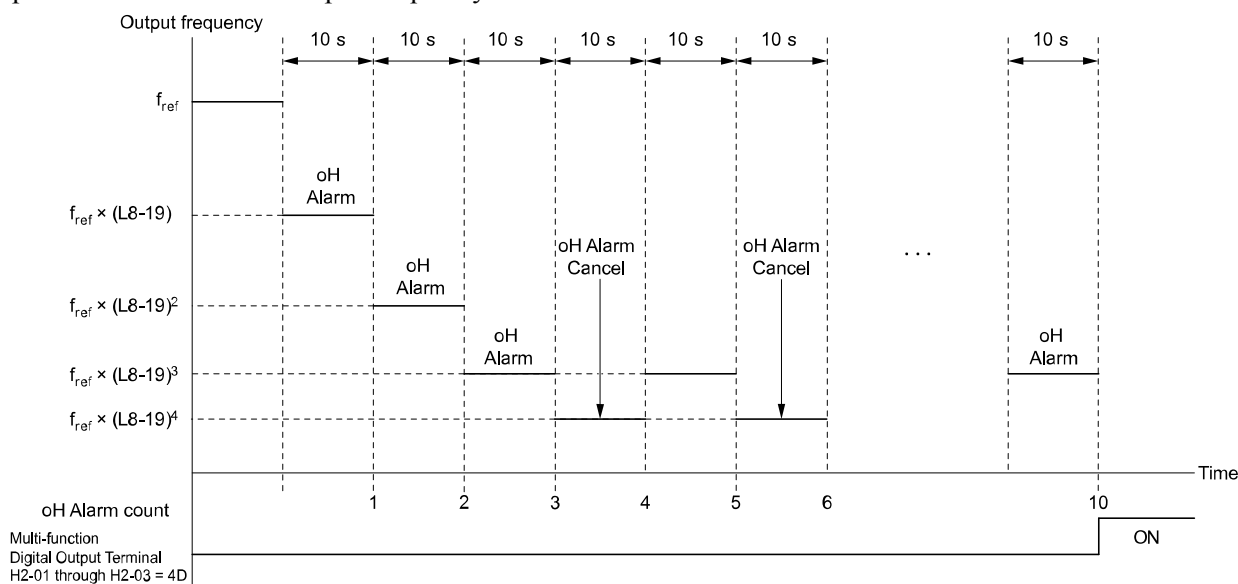

Figure 12.142 Drive Operation at a Decreased Output Frequency when the Overheat Alarm is Output
*oH* flashes on the keypad. When the alarm is output, the drive decelerates each 10 seconds. If the drive decelerates 10 times and the alarm continues to be output, the output terminal set for *oH Pre-Alarm Reduction Limit* [H2-01 to H2-03 = 4D] activates. When the alarm is not output during deceleration, the drive accelerates until it is at the frequency reference that was applicable before the alarm was turned off. Figure 12.142 shows the output of the alarm and the drive operation at a decreased output frequency.